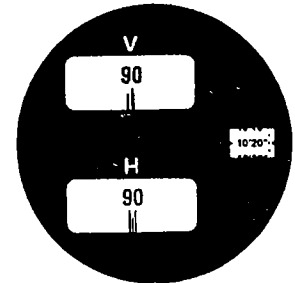

Fig. 28
- d. Loosen the horizontal clamp $\text{\textcircled{7}}$. Turn the instrument 90° clockwise. Tighten the horizontal clamp. Turn the horizontal fine motion $\text{\textcircled{1}}$ until the 90° double line is bisected by the H window index, Fig. 28.